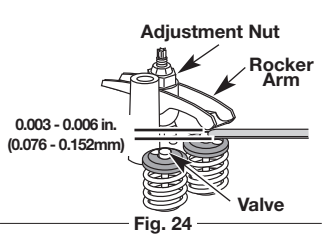

Fig. 24
7. Slide the feeler gauge between the rocker arm and the valve return spring. Measure the clearance between the valve stem and rocker arm (Fig. 24). Measure both the intake and exhaust valves.
- a. Turn the adjusting nut using a 5/16 inch (8 mm) wrench or nut driver (Fig. 24).